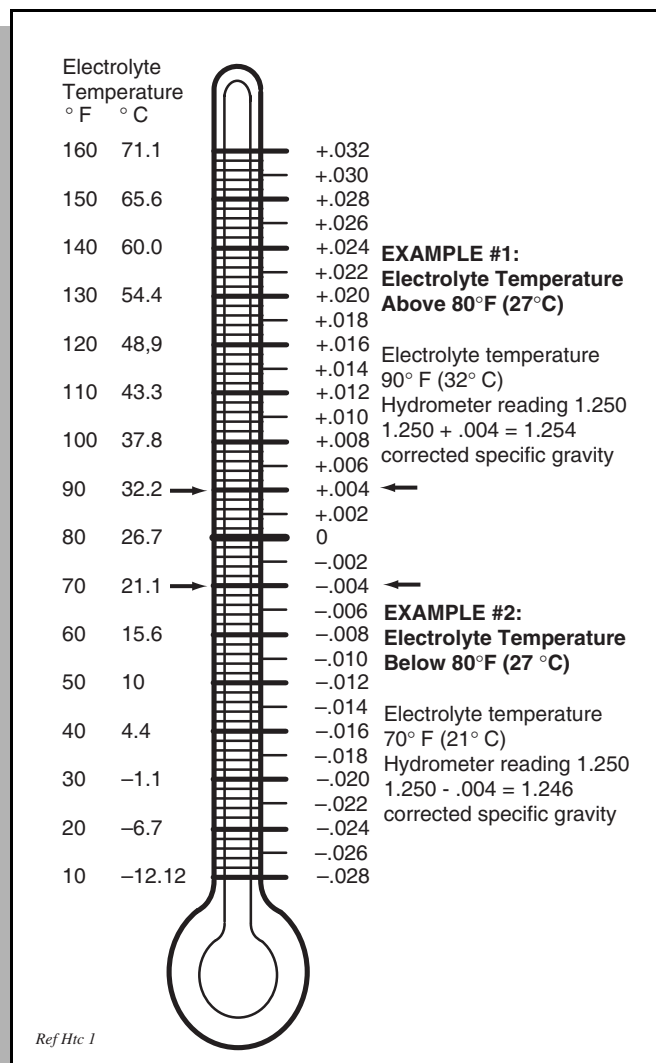

Fig. 26 Hydrometer Temperature Correction
4. Add or subtract four points (.004) to the reading for every 10° F (6°C) the electrolyte temperature is above or below 80° F (27° C). Adjust the reading to conform with the electrolyte temperature, e.g., if the reading indicates a specific gravity of 1.250 and the electrolyte temperature is 90° F (32° C), **add** four points (.004) to the 1.250 which gives a corrected reading of 1.254. Similarly if the temperature was 70° F (21° C), **subtract** four points (.004) from the 1.250 to give a corrected reading of 1.246 (Ref. Fig. 26 on page 24).